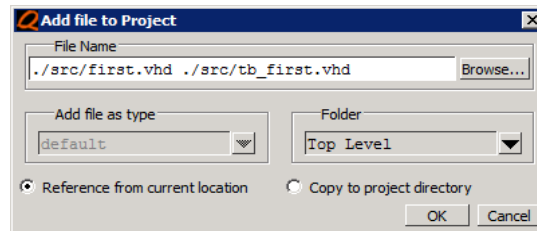

Figure 25. Add source files (2)
*Note: By default, Questa will refer to the selected source files by their full absolute path (M:/inf3430/lab1/cookbook/src/first.vhd). In Figure 25 the paths have been modified to a path relative to the project location (./src/first.vhd). **This step is not necessary** to make the project work but is useful **if you ever decide to move the project**.*